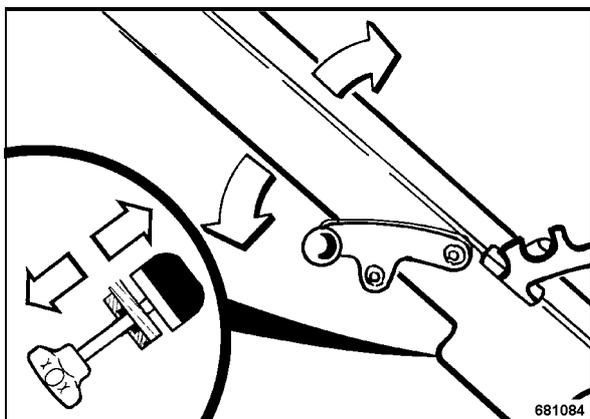

Fig. 40
- Adjust the steering rod with the height adjustment (Fig. 40) to the height of your body.